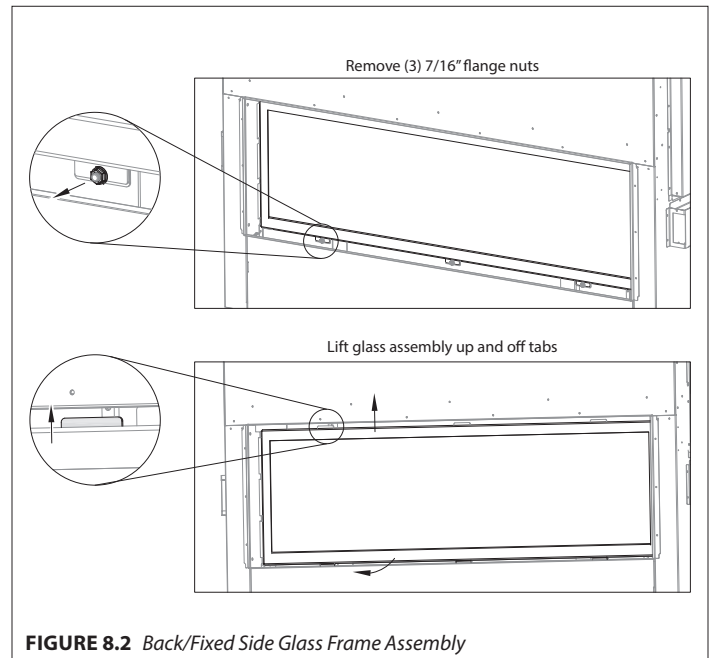

FIGURE 8.2 Back/Fixed Side Glass Frame Assembly
2. Locate the (3) 7/16" flange nuts below the fireplace opening securing the back/fix glass frame assembly. See Figure 8.2. Remove and save flange nuts.
3. Lift the back/fix glass assembly up and off of the (3) tabs located at the top of the firebox. See Figure 8.2.